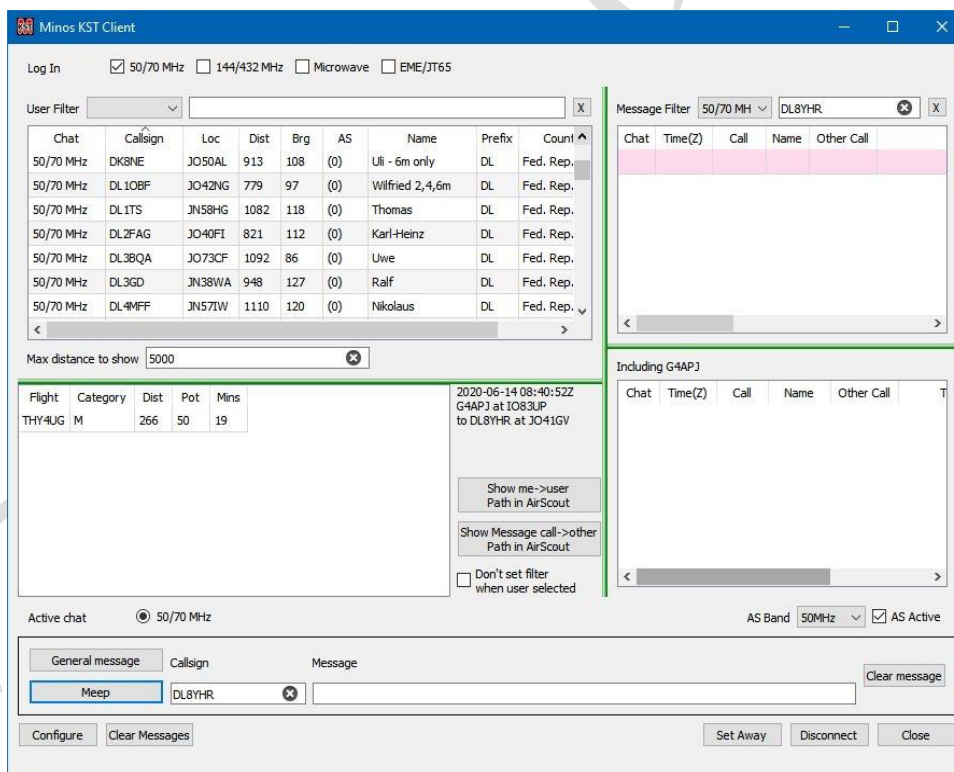

Figure 153 – Airscout operational in KST Client
Once the connection is established¹⁴² additional information (AS) is displayed in the User panel (on the left), and a new panel appears bottom left (Figure 153).